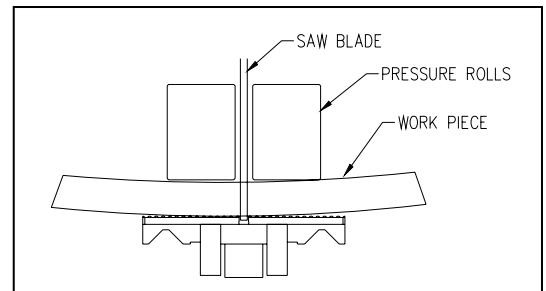
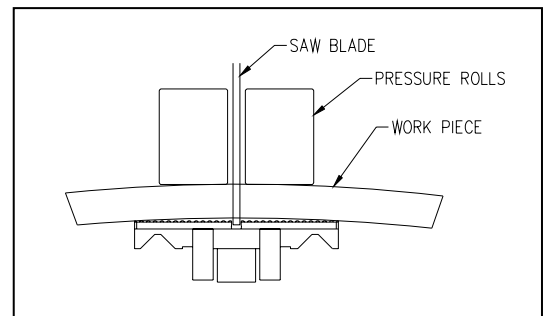

Figure 2
Figure 3
1. The proper method for feeding curved wood is illustrated in Fig.2 when curved wood is fed with its curve upwards refer to Fig.3 the pressure rollers on both sides of the saw will block and the marginal part of wood will most commonly pop out.